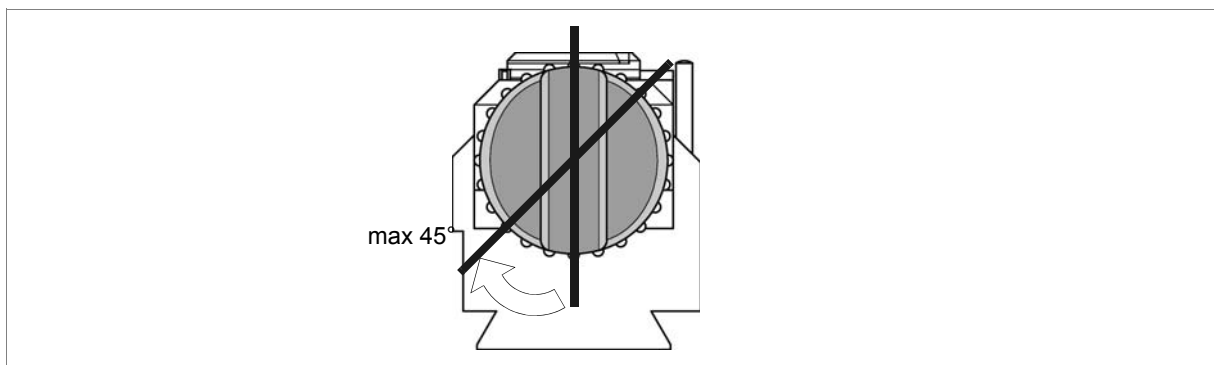

Fig. 24
**Attention:** when closing the clamp do not apply excessive pressure to the knob. To secure the key properly, simply turn the knob about 45° (clockwise or anticlockwise, according to needs) when the key is gripped (fig. 24). Take care to hold the key down properly when closing the clamp to avoid buckling, bad alignment or lack of support for the entire surface.